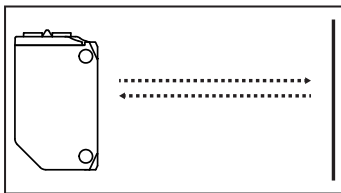

Fig. 6: Diffuse reflection sensor directed towards background
- ▶ Align the diffuse reflection sensor to the background (fig. 6).